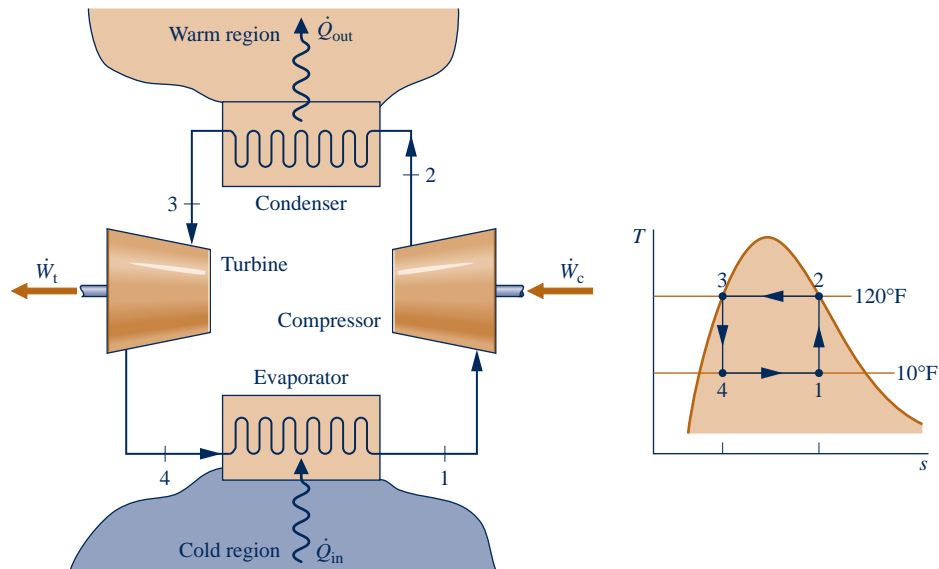

Fig. P6.35
6.35 Figure P6.35 shows a Carnot heat pump cycle operating at steady state with ammonia as the working fluid. The condenser temperature is 120°F, with saturated vapor entering and saturated liquid exiting. The evaporator temperature is 10°F.